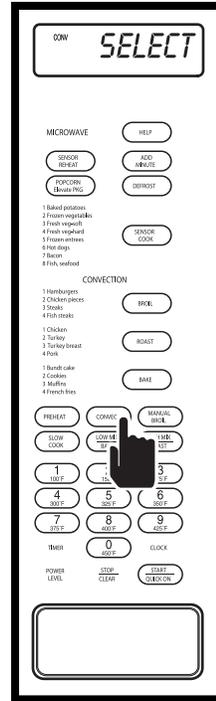

Figure 3-71. Press CONVEC Key
1. Press CONVEC key. "SELECT - TEMP" will flash on display (See Figure 3-71).